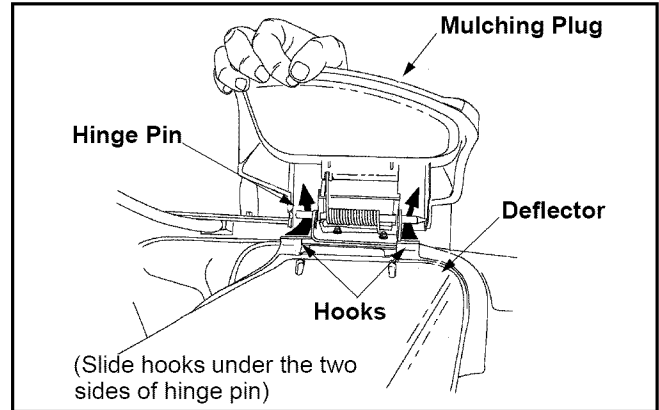

Figure 8
- Make sure the grass catcher is off the unit and the rear discharge door is closed. Refer to Figure 8.
- On the side of the mower, lift the mulching plug. See Figure 8.